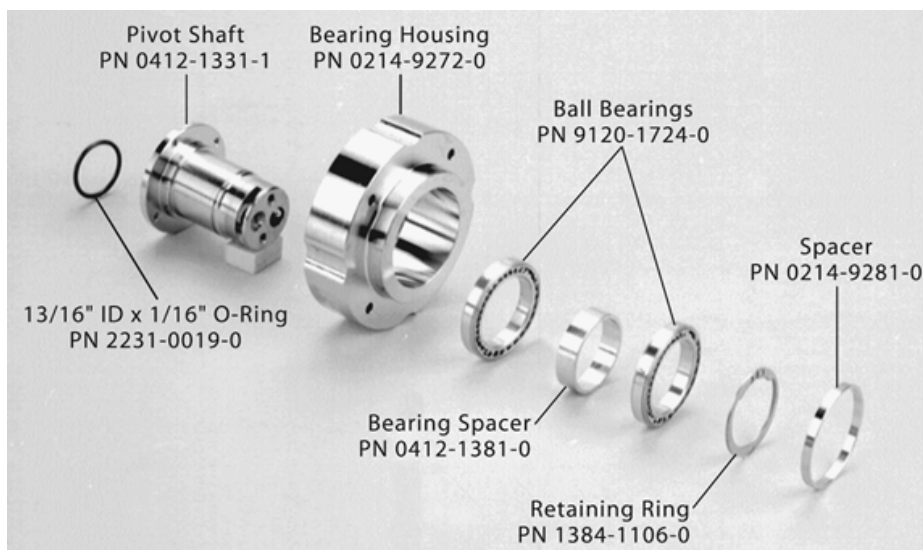

Figure 5-28. Layout of the parts of the bearing housing assembly, in order of reassembly
Step 3: Remove the pivot shaft, upper and lower bearings, and bearing spacer from the bearing housing. Figure 5-28 shows these parts laid out in order of reassembly.
Figure 5-28 shows the correct reassembly order and orientation for the parts of this assembly. Note that the bearing housing has a step in the bottom end of its bore, so that the bearings and the spacer can only be inserted from one direction.